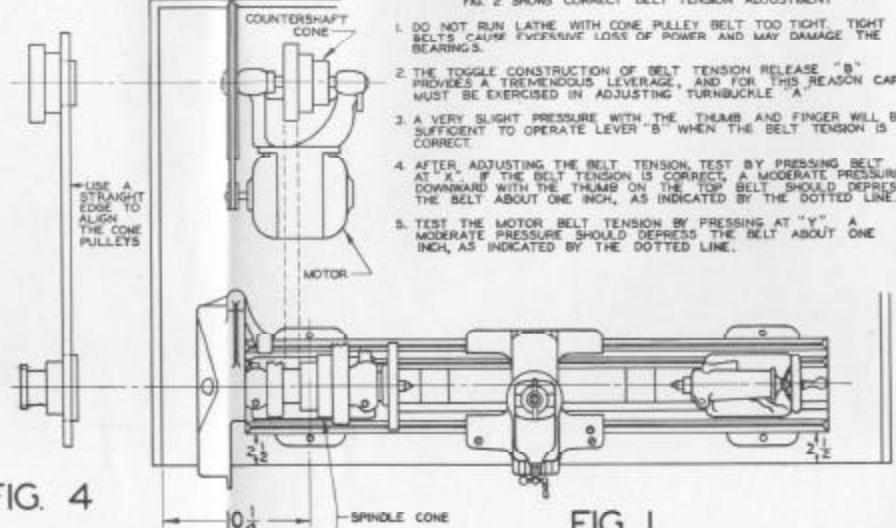

FIG. 4
- SET COUNTERSHAFT ON BENCH. SEE FIG. 2. ALIGN COUNTERSHAFT WITH LATHE USING STRAIGHT EDGE FROM CONE TO CONE. SEE FIG. 4. SCRIBE AROUND INSIDE OF SLOTS IN BASE OF COUNTERSHAFT. REMOVE COUNTERSHAFT, DRILL BENCH FOR BOLTS, AND FASTEN COUNTERSHAFT TO BENCH.